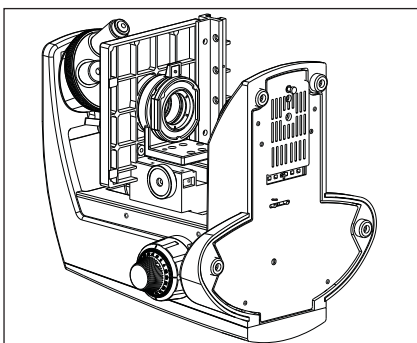

Fig. 1
2. To avoid potential shock hazards and burns when replacing either halogen bulb or LED, turn the microscope's main switch to OFF position and disconnect power cord from wall outlet in advance. Whenever you replace bulb during use or right after use, allow lamp socket and bulb to cool before touching (Fig. 1)